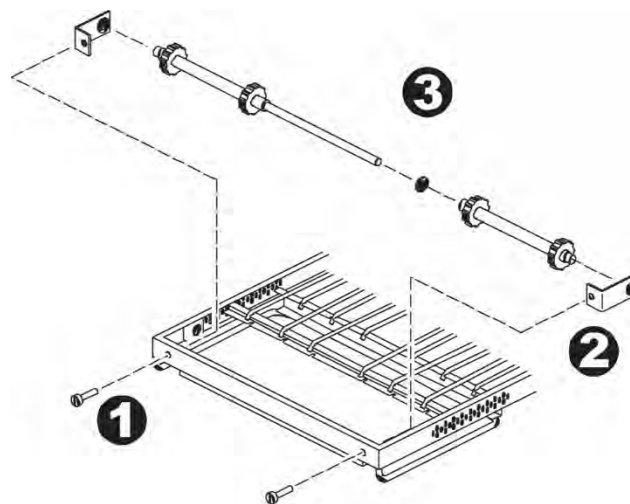

Figure 28. Disassembling the Idler Shaft
3. Remove the two conveyor adjustment screws from the idler end of the conveyor frame, as shown in Figure 28.
8. Reassemble the idler shaft into the conveyor. Make sure that the bronze washer is in place between the two sections of the shaft. See Figure 28.
9. Replace the conveyor adjustment screws as shown in Figure 28. To allow the conveyor belt to be reinstalled later, do not tighten the screws at this time.
14. Reassemble the drive shaft into the conveyor. Make sure that the bronze washer is in place between the two sections of the shaft. See Figure 28.